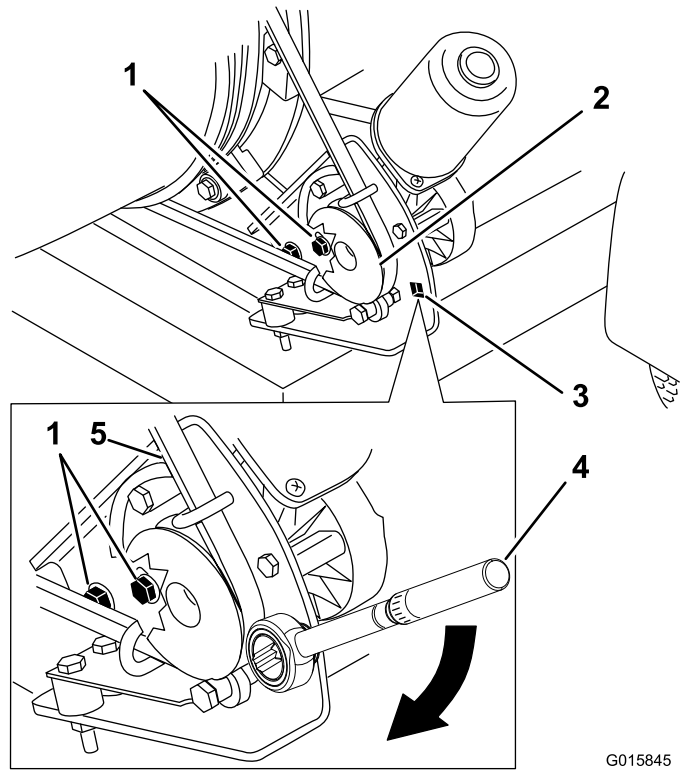

Figure 33
1. Loosen the bolts securing the pulley mounting bracket to the blower frame (Figure 33).
2. Position a torque wrench into the pulley mounting bracket (Figure 33).
3. Pivot the pulley mounting bracket away from the nozzle until the torque wrench reads 200 to 230 in-lb (22.6 to 26.0 N-m) (Figure 33).